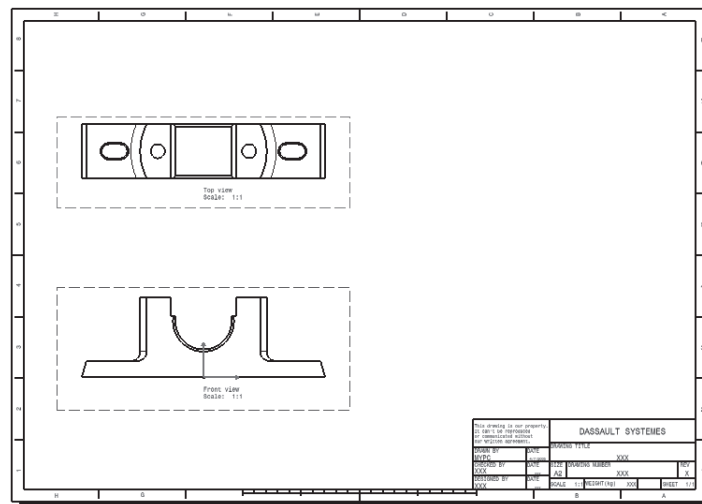

Figure 13-32 The drawing sheet, after generating the top view
- Generate the top view, refer to Figure 13-32.
3. Click on the drawing sheet to place the top view, refer to Figure 13-32.
4. Move the view notes by dragging them, refer to Figure 13-32.
The drawing sheet, after generating the top view, is shown in Figure 13-32.